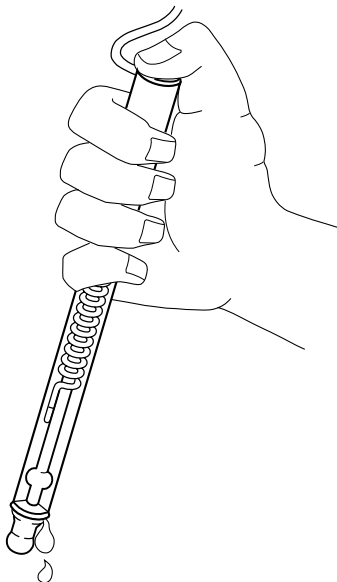

Figure 3: ROSS Sure-Flow Electrode Being Flushed
4. Thoroughly wet the junction by pressing down on the electrode cap and allowing some of the ROSS Internal Filling Solution to flow out of the electrode through the junction. Replenish lost filling solution. See **Figure 3**.
The major advantage of the ROSS Sure-Flow® Electrode is that the junction can be cleaned at any time by briefly depressing the cap. See **Figure 3**. This can be done whenever necessary. To be sure to maintain a proper level of filling solution, refill as in step 3 of **Electrode Preparation**.